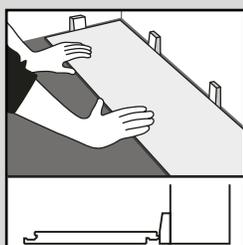

Fig. 1
1. First check the width of the room and calculate how many full rows will fit; the remaining space should be halved to indicate the width of the first and last row of planks. If the space is calculated to be less than 6" (150 mm), the number of full rows should be reduced by one and the width of the cut planks in the first and last rows is increased accordingly. Install the plank with the tongue side/cut edge facing the wall, fit 3/16" (5 mm) spacers between the plank and wall (Fig. 1).